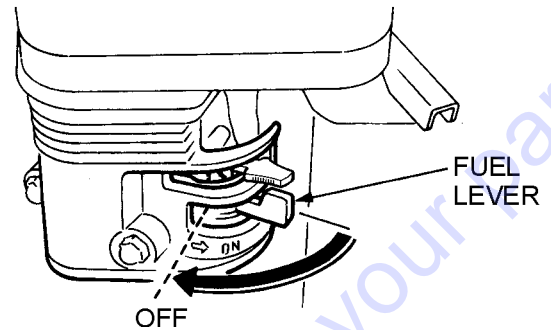

Figure 39. Fuel Valve Lever (OFF)
3. Close the fuel shut-off valve (Figure 39) by moving the fuel valve lever to the OFF position.